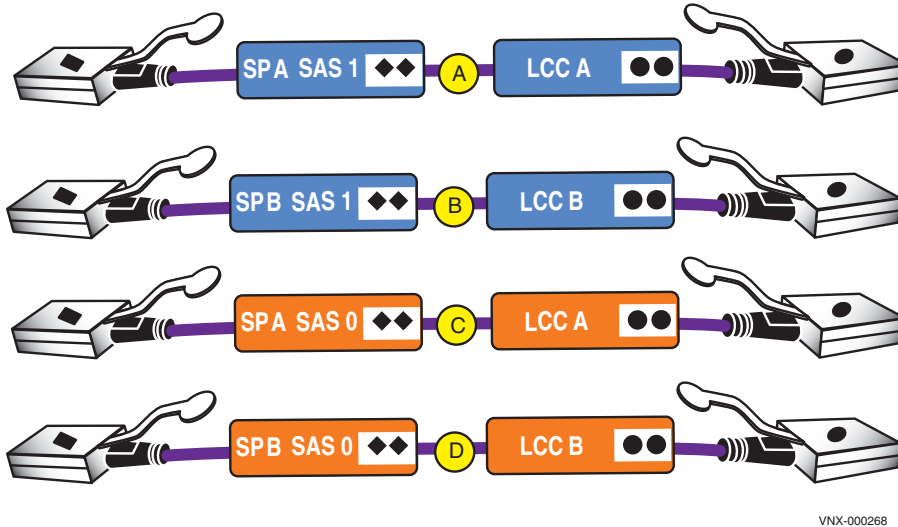

Figure 19 SAS cables for the first two DAEs
- b. Attach the cable labels by matching the icons on the connectors with the icons on the labels as shown in Figure 16 and Figure 19 on page 30.
1. Locate one pair of cables for each DAE as shown in Figure 19.
For steps 2 through 5, connect the following cables by matching the double diamonds $\blacklozenge\blacklozenge$ on the DPE and double circles $\bullet\bullet$ on the DAEs with the single diamonds \blacklozenge and single circles \bullet on the cable connectors as shown in Figure 19 on page 30. Ensure that the cables lock into place.